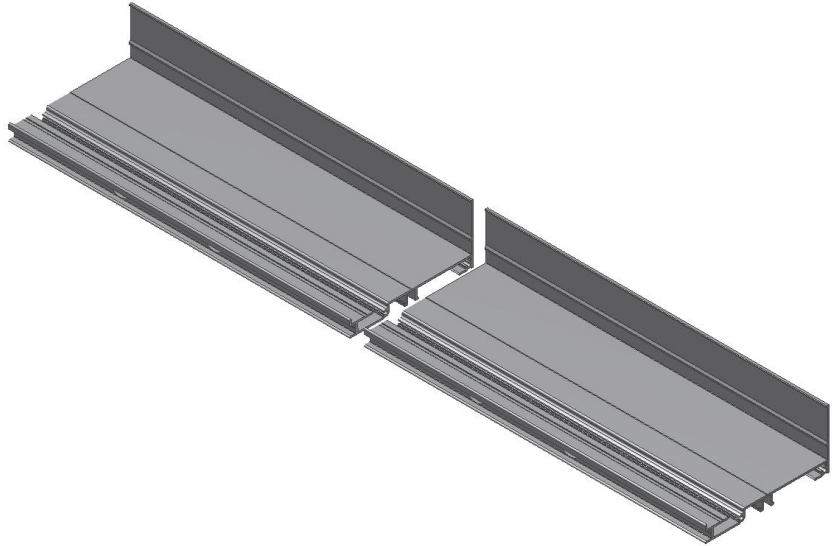

Figure 2: Extruded sill flashing longer than 24' in length should be spliced.
- Drill holes in the vertical using a drill fixture as shown in Figure 2.
- Flashing longer than 24' in length should be spliced as shown in Figure 2.